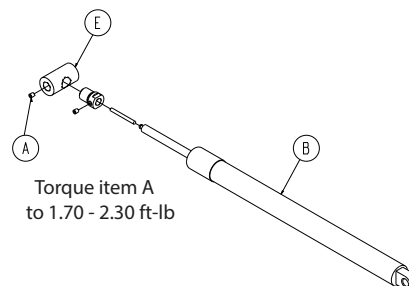

Figure 18 – Fowler cylinder components
7. Hold the Fowler up and pull out the bottom of the gas cylinder (B) (Figure 18).